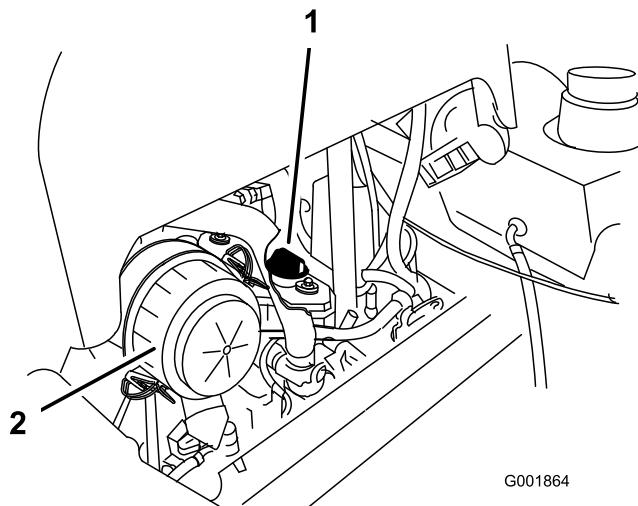

Figure 44
- Remove the oil filler cap from the top of the engine (Figure 44). This will help the oil to drain.
2. Remove the oil filler cap and the dipstick (Figure 44).